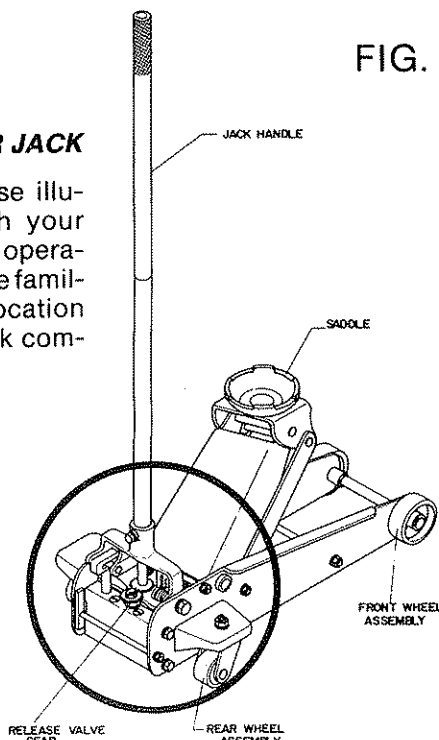

FIG. 1
- Open the release valve by turning the jack handle (see Fig. 1) counter-clockwise.
- Refer to the vehicle manufacturer owners manual to locate approved lifting points on the vehicle. Position jack so that the saddle (see Fig. 1) is centered under the load at an appropriate lift point.